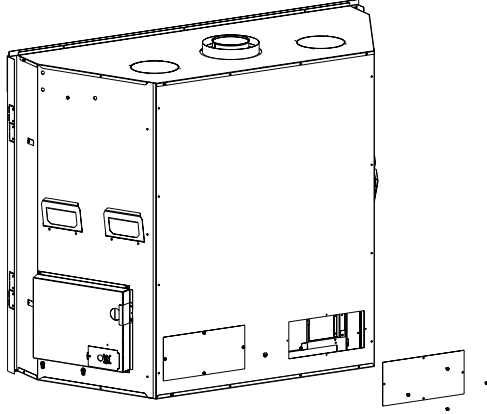

Figure 2
1. Remove Blower Access Panels. See Figure 2.